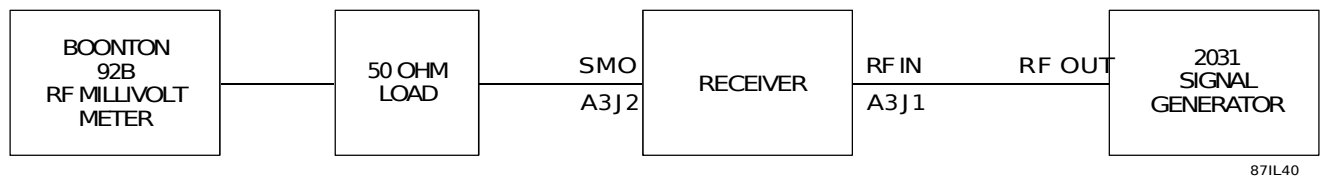

Figure 7-8. RF/IF Signal Path Performance Test Equipment Connection
- Connect the WJ-8710A Receiver and test equipment as illustrated in **Figure 7-8**.